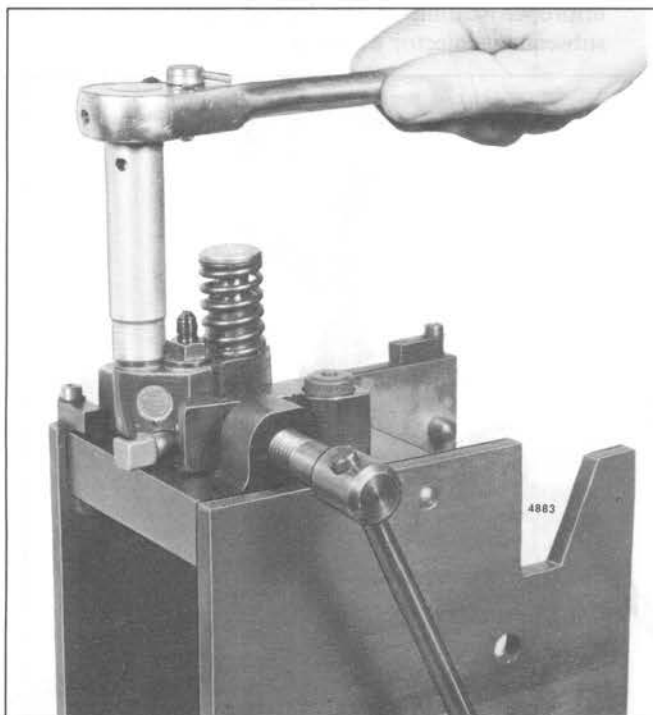

Fig. 28 – Installing Filter Cap
3. Place a new gasket on each filter cap. Lubricate the threads and install the filter caps. Tighten the filter caps to 65–75 lb-ft (88–102 N•m) torque with a 9/16" deep socket (Fig. 28).